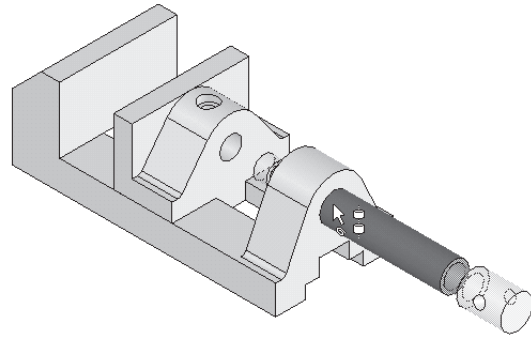

Figure 12-62 Jaw Screw being dragged
6. Drag the Jaw Screw to the hole in the Vice Body, as shown in Figure 12-62; the Jaw Screw appears transparent and the select cursor is replaced by the smart mates cursor. Also, the symbol of the **Concentric** mate is displayed below the cursor.